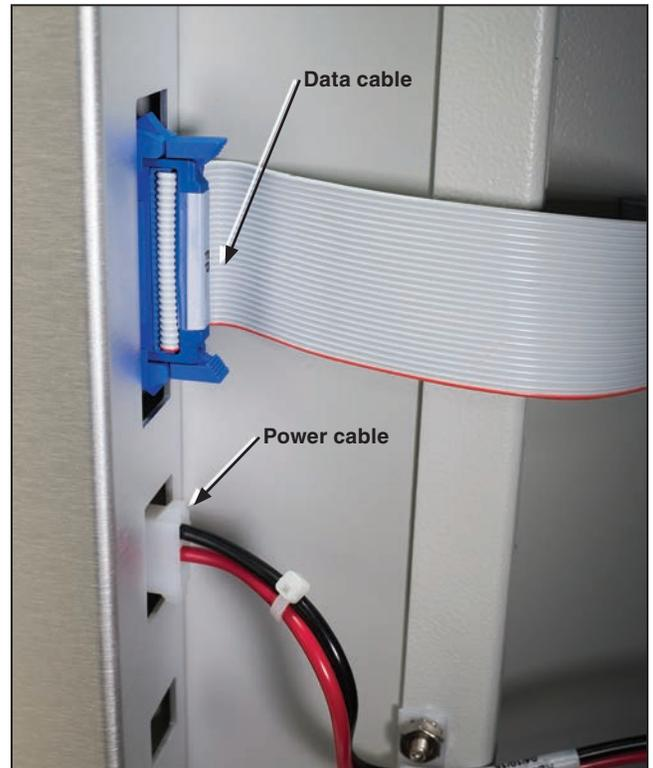

Figure 6. The front panel data connector and the power connector.
STEP 3. Open the front panel door, and disconnect the data cable and the power cable on the right side. See Figure 6.
- STEP 16.** Reinstall the data cable and the power cable to the processor board. See Figure 6 on page 11.